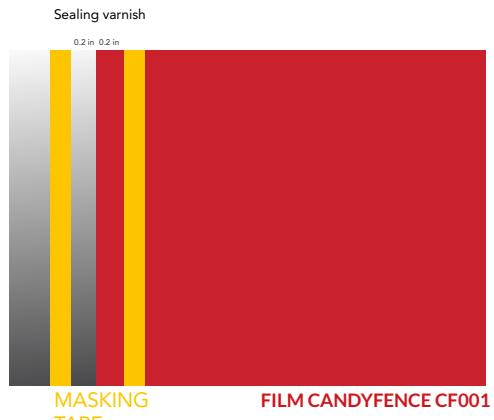

Figure 29
- 1 to the CANDYFENCE CF001 film at 5 mm (0.2 in.) from its edge. (FIG. 29)